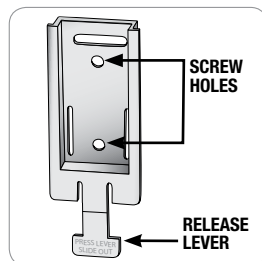

Fig. 44 - 8208 Chair/Wall Bracket (Front View)
2. Use Wall Bracket (Cat. 8208) (Fig. 44).
- Position wall bracket with back (flat side) against wall (Fig. 44).